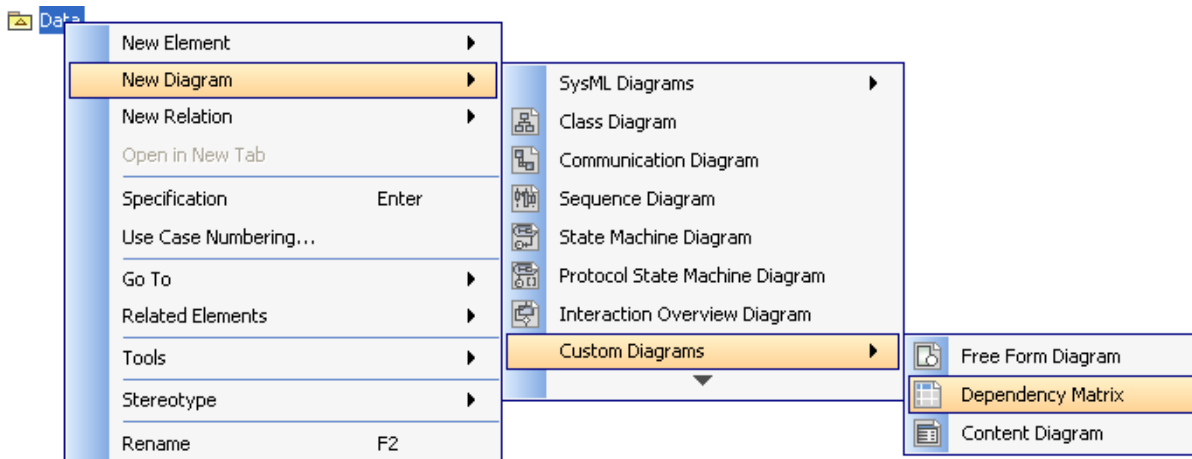

Figure 252 -- Opening Dependency Matrix from the Package Shortcut Menu in the Browser
- Package shortcut menu in the browser (Figure 252)